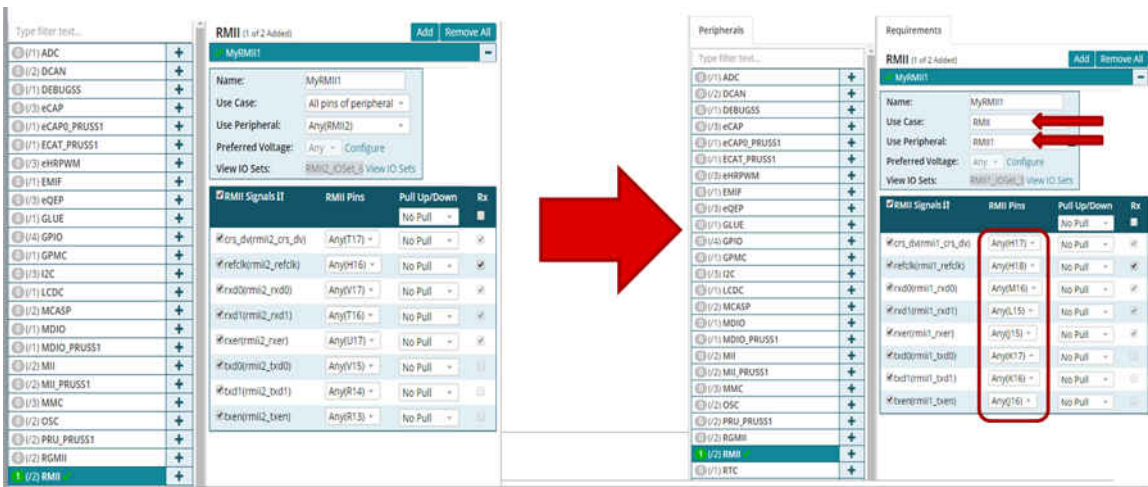

Figure 3-9. RMII 1 for DP83825 by PinMux Tool
4. See Figure 3-9 for detail.
The Green Arrow is the RMII interface, click the + button. The window displays the RMII, you need to switch to the **RMII"1"**, the Csr_Drv is using H17 Pin as shown in Figure 3-9 (Red arrow).